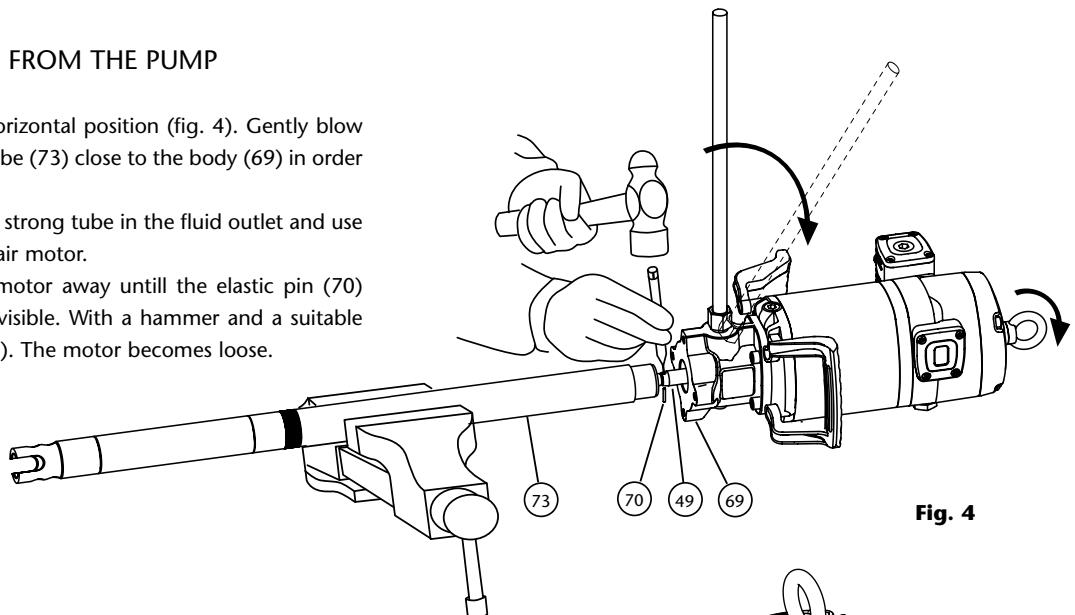

Fig. 4
1. Fix the pump in a vise in horizontal position (fig. 4). Gently blow with a hammer the upper tube (73) close to the body (69) in order to break the thread locker.
3. Once unscrewed, pull the motor away until the elastic pin (70) into the rod (49) becomes visible. With a hammer and a suitable pin punch, eject the pin (70). The motor becomes loose.